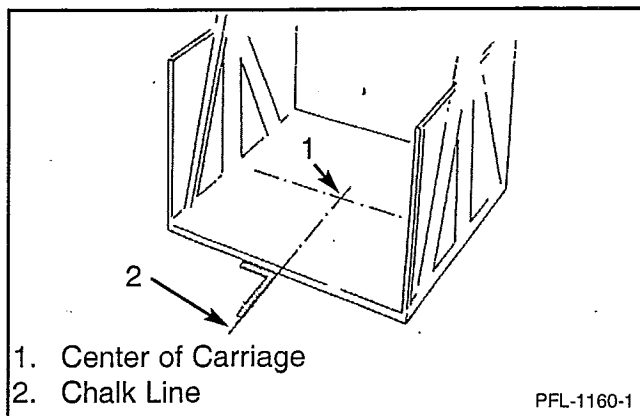

Figure 12
7. Stand gate assembly upright and place in position. Place the back face of the gate post on the chalk line 6" from the face of the carriage. See Figures 12 and 13. Some states require the gate closer to the carriage. Where necessary, adjust accordingly.